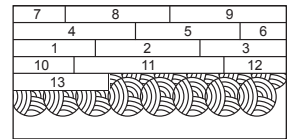

Figure 16
- Spread sufficient amounts of the recommended adhesive with the recommended trowel in an area that can be covered within the working time of the adhesive. Be sure not to spread adhesive too far ahead of your work area (Figure 16).